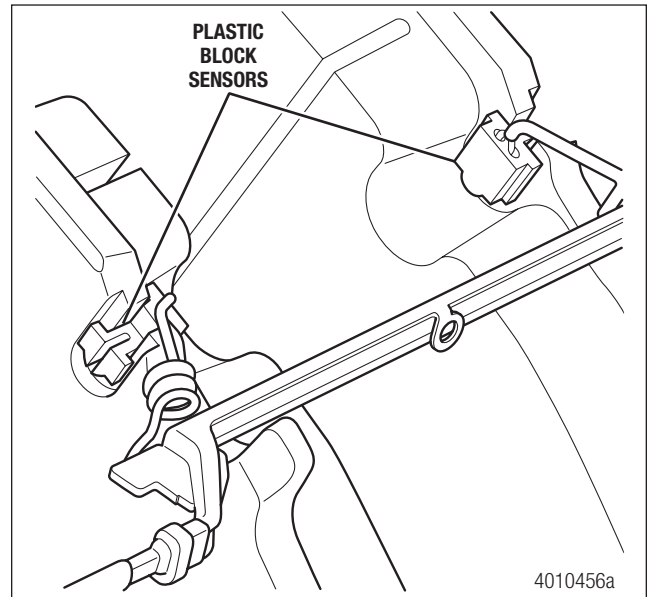

Figure 24
- b. Carefully hold the pad retainer bar with the PWWI in position to allow for installation of the plastic sensor blocks. Install the plastic blocks into the pads. Do not use excessive force, but ensure they are pushed to the bottom of the slot. Figure 24.